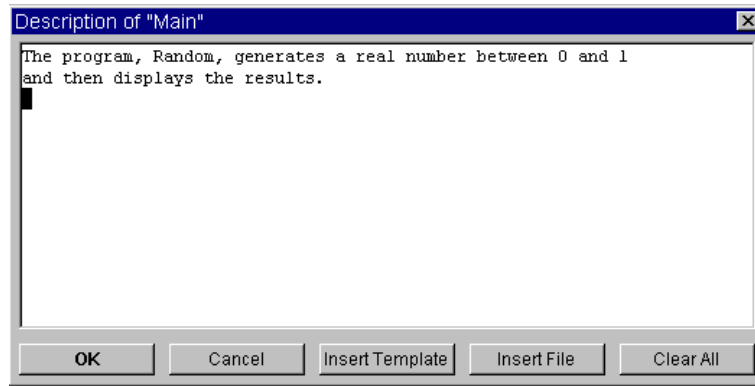

Figure 2-34. The Description Dialog Box
2. In the `Main` object menu, click `Description`. Type text in the dialog box as shown in Figure 2-34: Click `OK` when you are done.